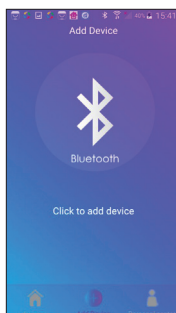

Fig. 2
Step 4. Select the access mode and enter wi-fi and Bluetooth® info as needed (fig. 2). The unit may beep and the “WIFI” light should start blinking; after which, the app should begin pairing.